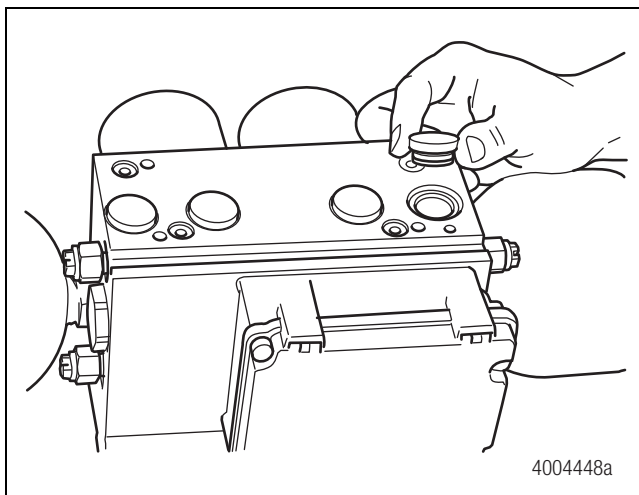

Figure 4.10
6. Seal the HCU reservoir ports. Figure 4.10.